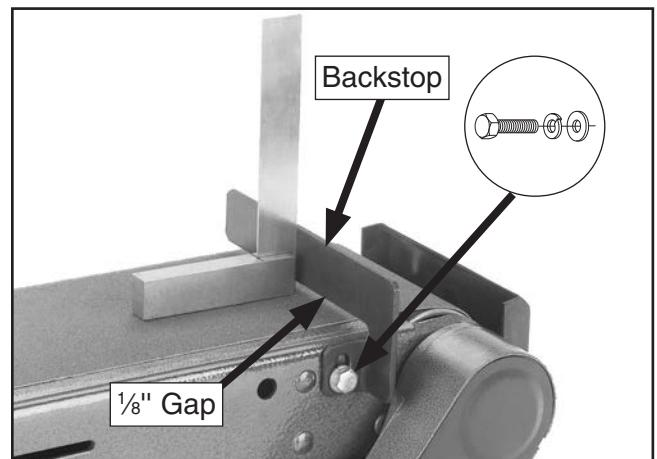

Figure 11. Squaring backstop.
8. Use M6-1 x 14 hex bolt with 6mm flat washer and 6mm lock washer to attach backstop to sander body (see **Figure 11**).
9. Square backstop as shown in **Figure 11**, and tighten hex bolt, leaving $\frac{1}{8}$ " between backstop and belt.